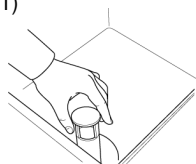

Fig.41
- 1- Open the door and remove the water flow device. (Fig.41)